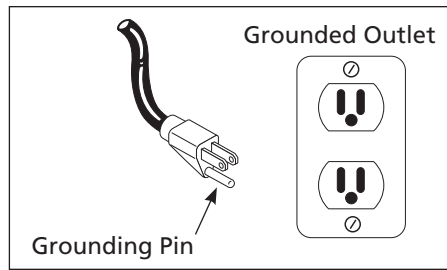

Figure 6 - Grounding Method
- This product is for use on a nominal 120 volt circuit and has a grounding plug that looks like the plug illustrated in Figure 6.